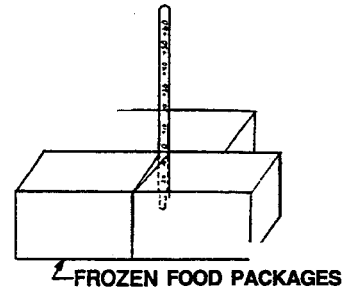

Figure 3
- f. In freezer section, put thermometer snugly between frozen food packages. See Figure 3.